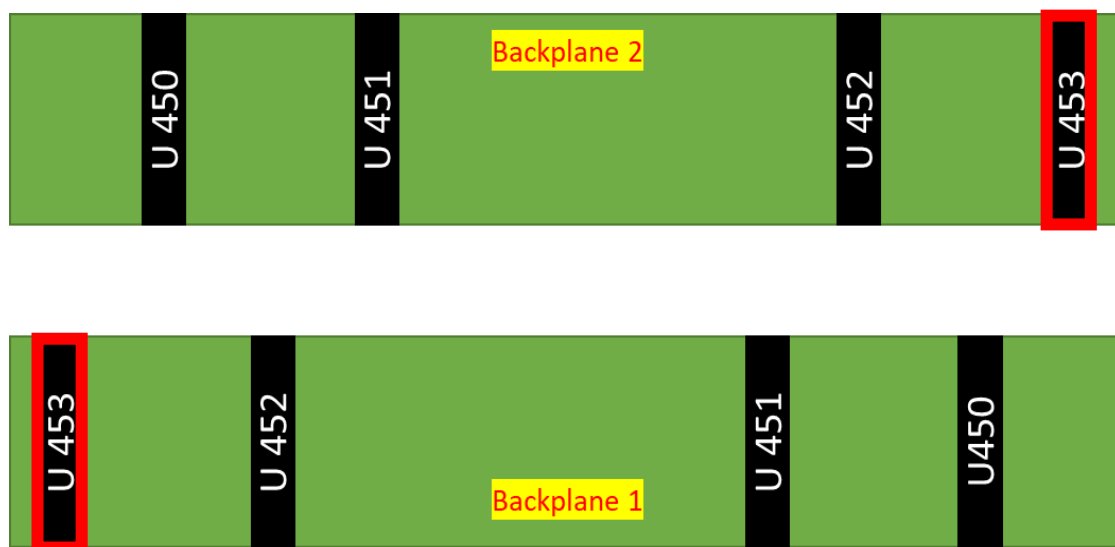

Figure 8: Backplanes U453 Connectors
5. If an AT1000 is not available, a second option is to install the BERT cassette into U453 of either backplane 1 or 2 as shown in Figure 8.